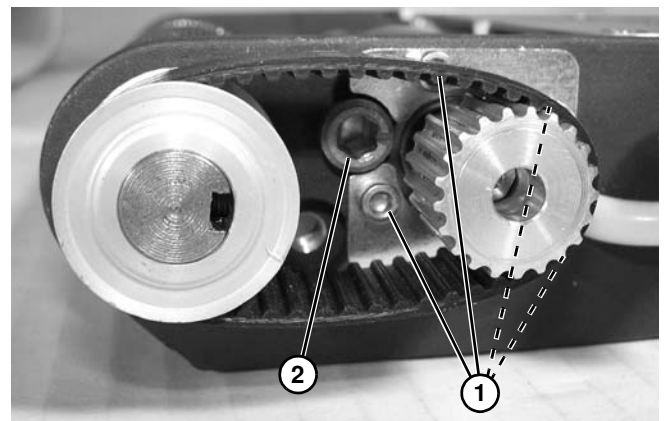

Figure 127
4. Loosen four clamp plate screws (**Figure 127, item 1**).
5. Loosen timing belt tension cam (**Figure 127, item 2**).